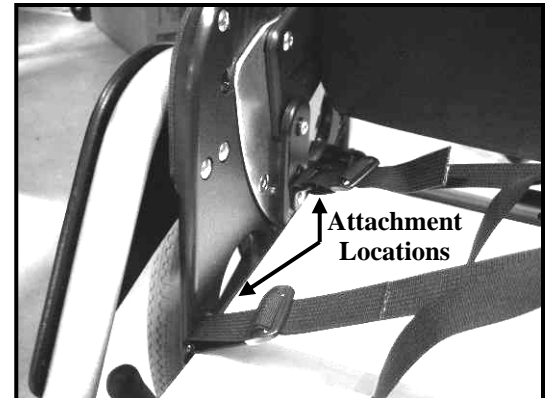

Figure 8: Positioning Belt Attachment Locations
2. **Fig. 8** shows the attachment chafes to which a pelvic positioning belt may be attached.